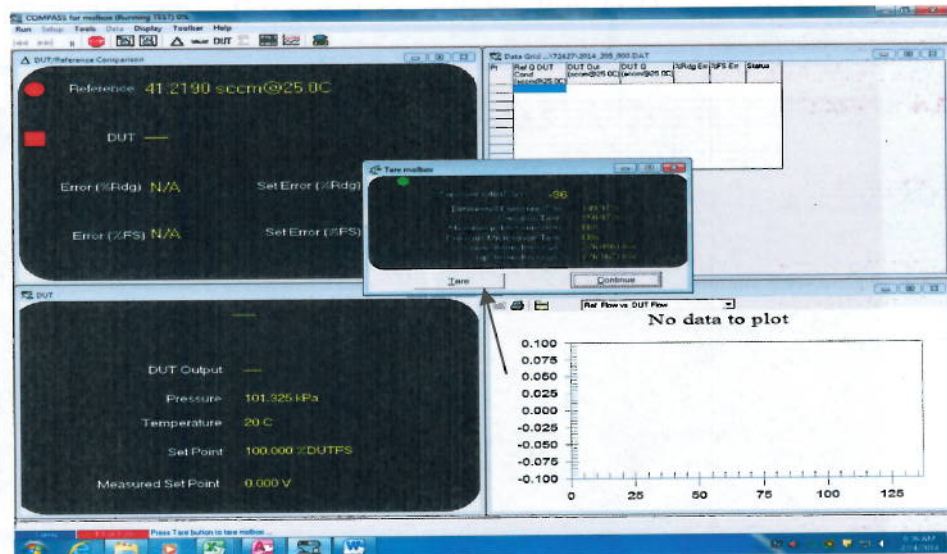

Figure 10
12.3.9 Click on the “Tare” button. See Figure 10.